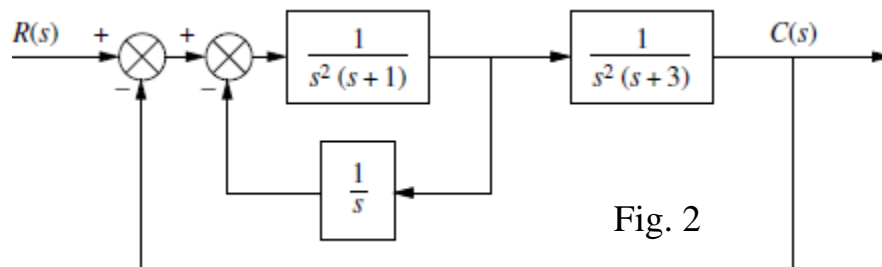

Fig. 2
- 3) For the system shown in Fig. 2, find